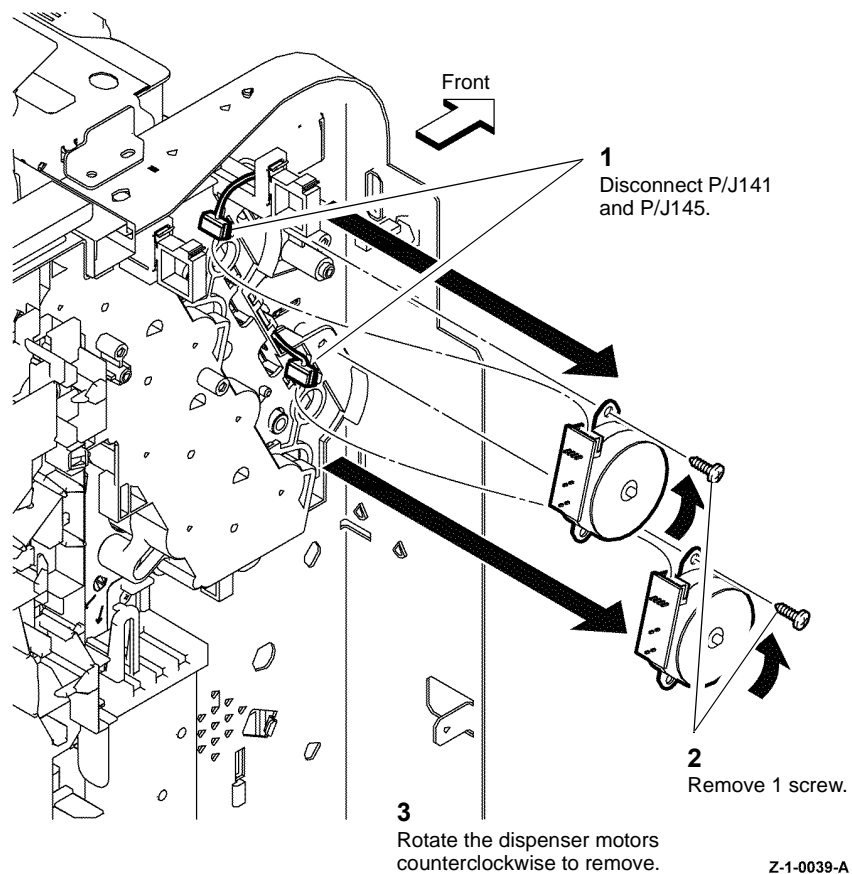

Figure 3 Upper dispenser motor assembly
5. Remove the upper dispenser motors, Figure 3.